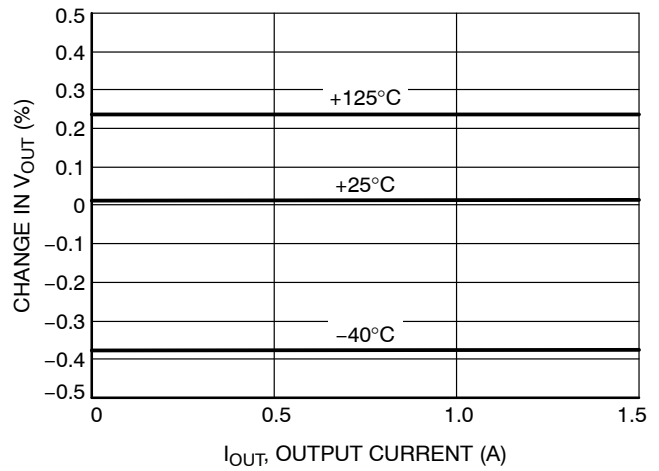

Figure 8. Load Regulation
10. 3.25 V is a test condition of this device and can be adjusted by referring to Figure 8.